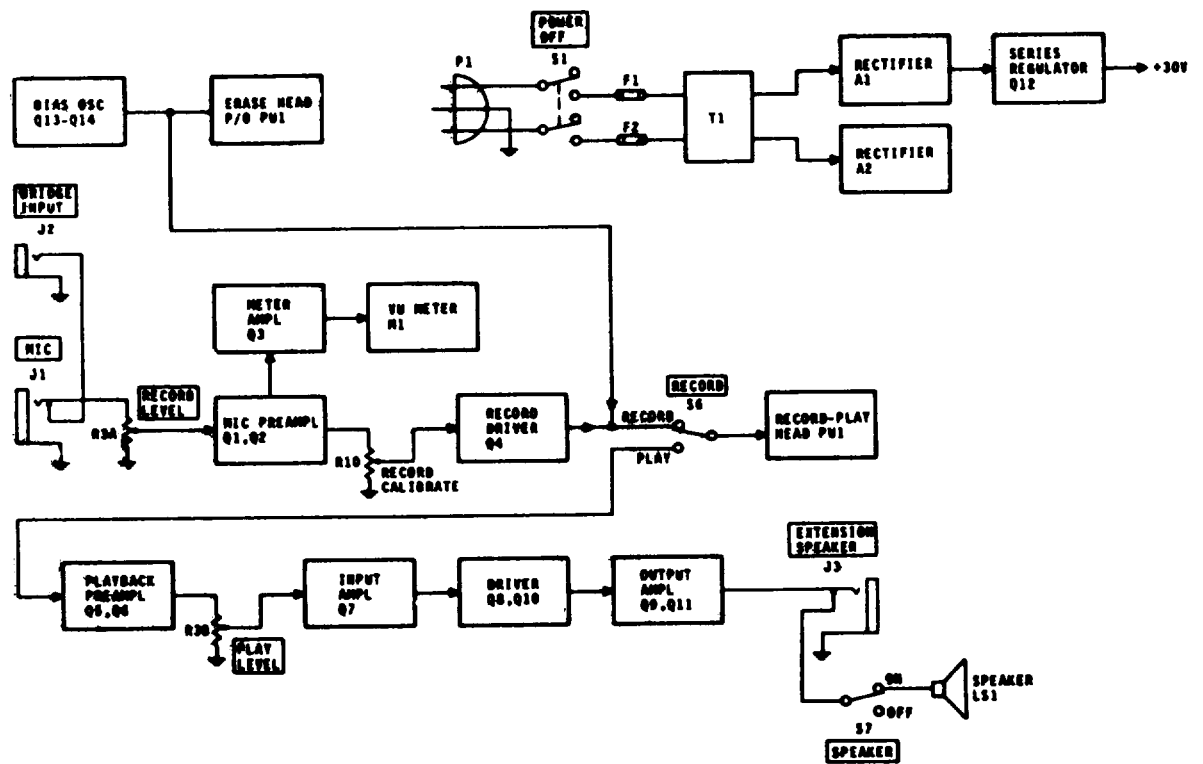

Figure 4-1. Recorder-Reproducer, Block Diagram
a. Refer to the block diagram, figure 4-1, and to the schematic diagram, figure 4-2. The record circuits contain two input jacks, one for a microphone and one for a high impedance (bridging) input which can be connected across a low impedance source (such as a loudspeaker coil) with negligible loading effects. When the microphone jack is used, contacts of the jack open the bridging input.
a. Refer to block diagram, figure 4-1 and schematic diagram, figure 4-2. Bias oscillator Q13, Q14 produces a supersonic current at a frequency of about 80 kHz. This bias current is used in the erase head to erase the tape before recording and in the record head
a. Refer to block diagram, figure 4-1, and schematic diagram, figure 4-2. In playback operation, magnetic fields caused by the tape moving past the play head induce audio signals in the head. These signals are coupled through contacts of RECORD switch S6 (in the play position) and C18 to the base of playback preamplifier Q5, Q6. The amplifier uses two direct coupled amplifiers. Dc degenerative feedback from the output to the input is provided by R28 to stabilize the amplifier and improve linearity. Additional dc degeneration is provided by C21 and R24 (for Q5) and R29 and C23 (for Q6). R30, R31, and C22 form an equalization network to provide high frequency boost. Signals from the collector of Q6 are coupled through C22 and either R30 or R31 to R25 in the emitter of Q5. The signals are in phase and increase the gain at high frequencies, when the reactance of C22 decreases. R30 is selected for tape speeds of 3.75 inches per second and R31 for 7.5 inches per second by contacts of S9. The feedback is adjusted using R30 and R31 to obtain "flat" response.